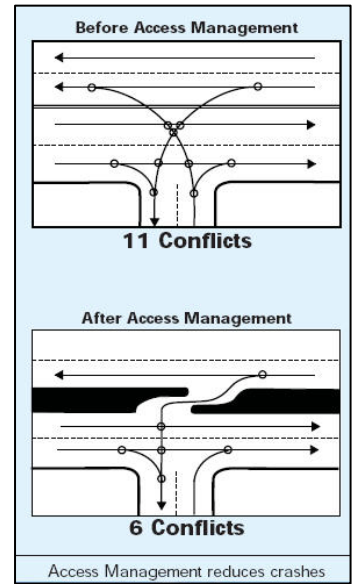

Figure 13 – Conflict Diagram
- Reduction in conflicts (See Figure 13)